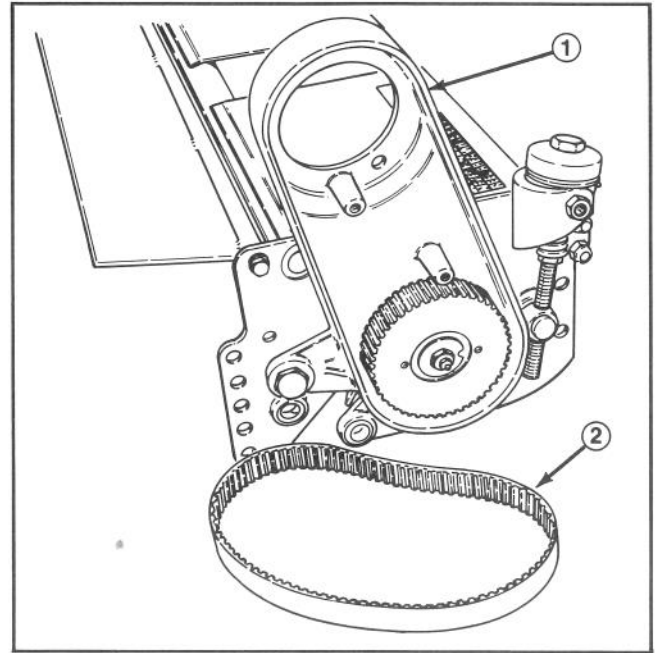

Figure 29
5. Disassemble the cover from the drive housing and remove the drive belt from the housing (Fig. 29).
10. Ensure the slot in the pulley washer is aligned with the roll pin in the pulley and install the washer, toothed washer and reel capscrew (Fig. 29). Apply a medium strength thread locking compound to the reel capscrew during assembly. Torque the capscrew to 45 - 55 ft.-lbs.